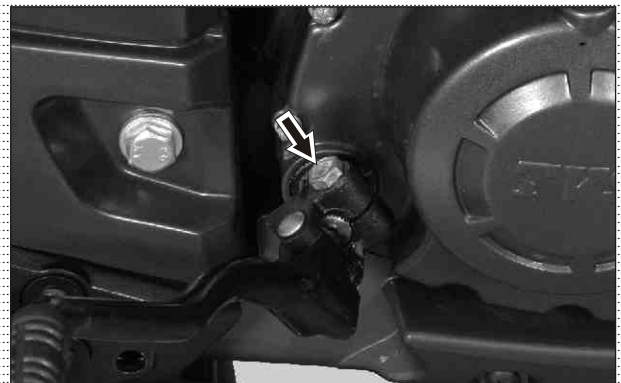

Fig. 3.1
- Remove hexagonal bolt (M8x35 - 1 no) from the lever assembly kick starter mounting and pull out lever assembly kick starter. (Fig. 3.1)